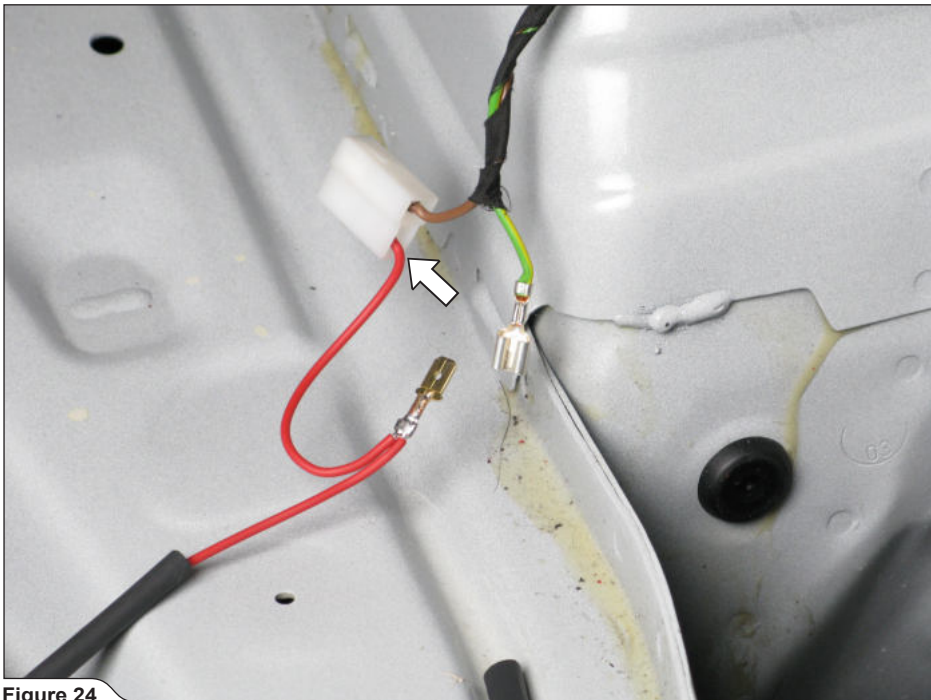

Figure 24
15. **For plug-in socket powered Wireless only:** correctly orient the red wire's pin and attach the pin into the original plug-in socket connector (**Figure 24**).
16. Connect the original **green/yellow** wire with red transmitter's harness wire, and protect the connection with heat shrinkable insulation (**Figure 24, 25**).